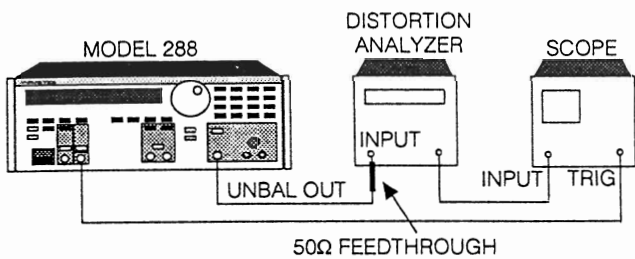

Figure 5-3. Sine Wave Adjust Setup
1. Connect the test equipment as shown in figure 5-3.